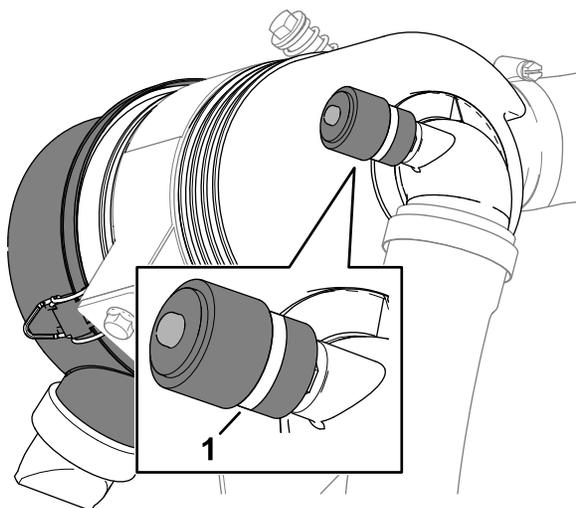

Figure 76
3. Check the service indicator at the end of the air filter housing (Figure 76).